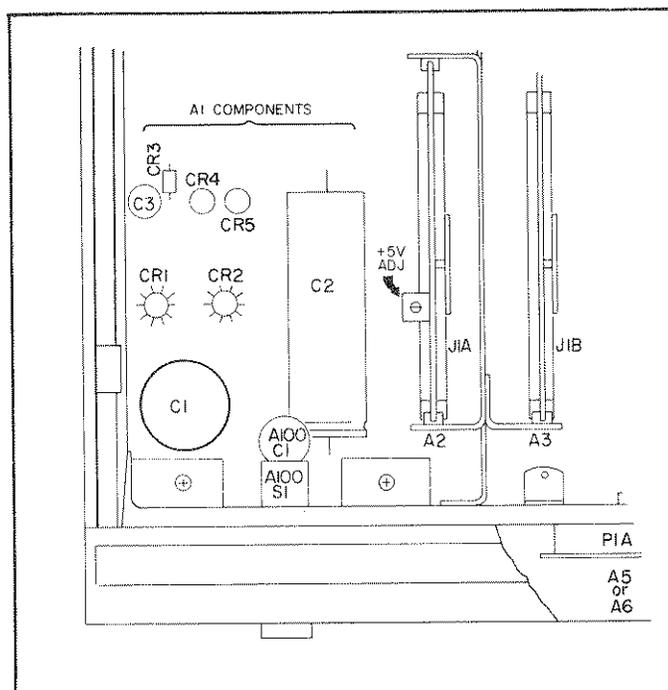

Figure 5-1. Five (5) Volt Adjustment.
- c. Adjust A2R1 to give a reading on the voltmeter of  $+ 5 \text{ V} \pm 3\%$ . This adjustment screw is shown in Figure 5-1.